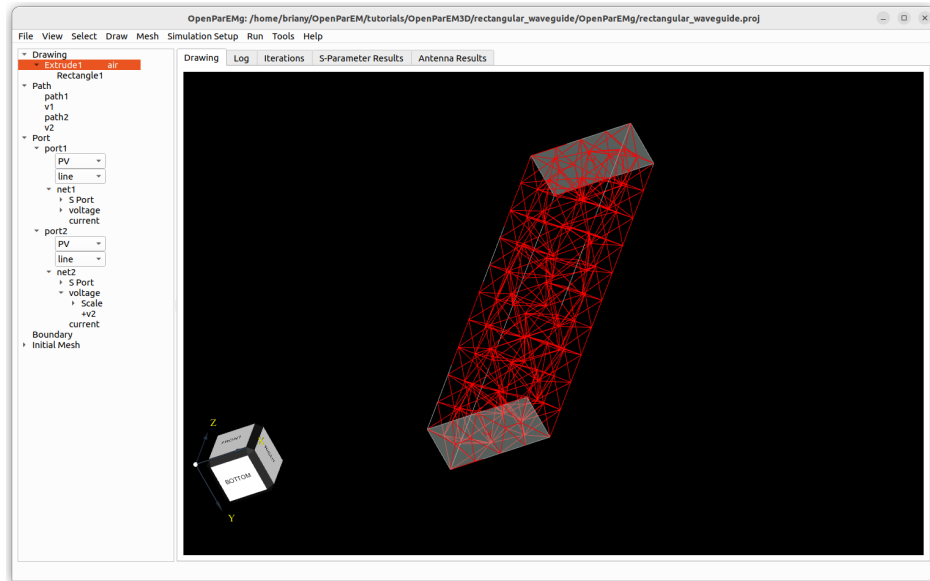

Figure 4: Meshed rectangular waveguide.
- Select **Mesh**→**Generate**. The mesh should appear as in Fig. 4.